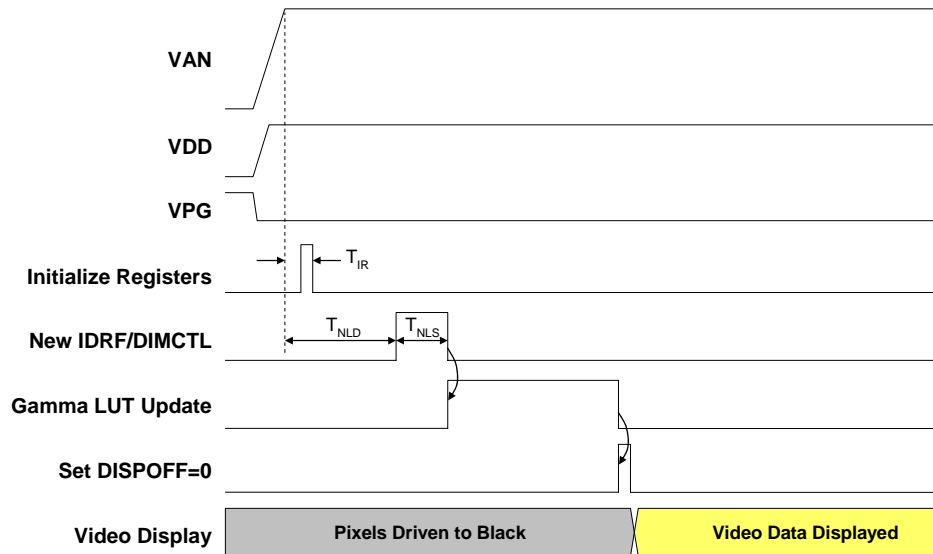
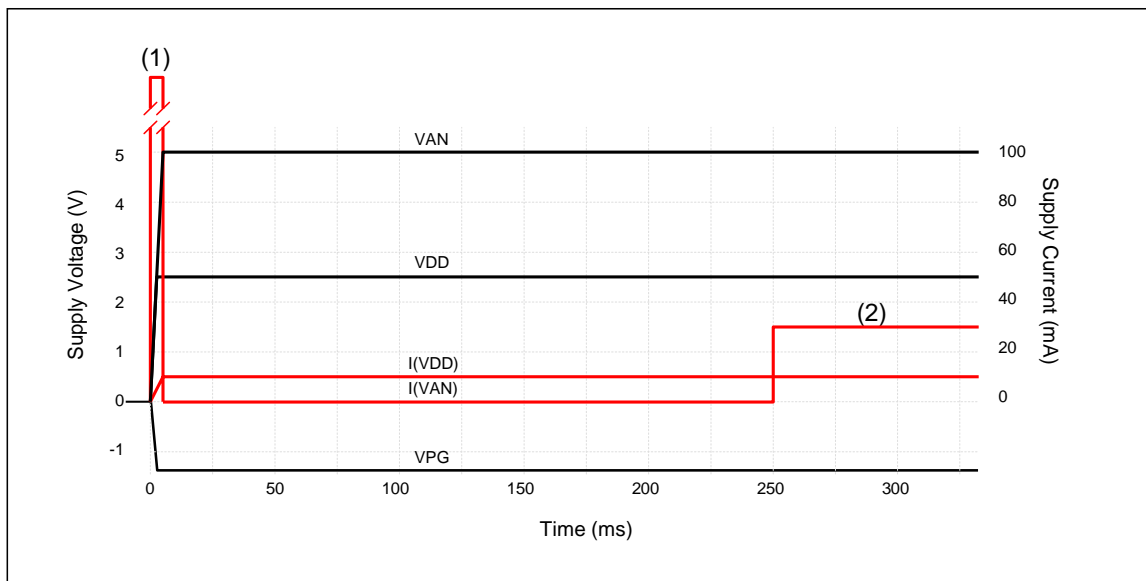

Figure 21 : Power-On sequence for supplies and control.
Figure 22: Typical startup currents
To ensure proper startup and stabilization of the display the power-on sequence shown in the timing diagram of Figure 21 is recommended.
The currents supplied during a typical startup operation are illustrated in Figure 22. An inrush current (1) occurs on the 5V supply line during the initial moments of the ramp up phase (this is about 1A peak for a 100usec ramp time). Typically, using the startup procedure illustrated in Figure 21 the image will become active about 250msecs after power is applied. The current drawn from the 5V supply during normal operation (2) depends on the operating luminance.